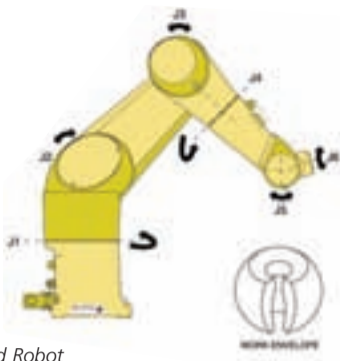

Figure 2. Articulated Robot
**ARTICULATED ROBOT** (Figure 2) – or Jointed Arm robot, is the most versatile type and closely resembles the kinematics of the human arm. It has three concurrent prismatic or rotary joints, with a further 3 axes in the wrist, giving 6 DoF. Its end effector can be manipulated to any orientation in the work envelope, which is almost spherical. The capacity to reach over and around constructions and twist or tilt the end effector, make it ideal for complex part removal/installation, processing, arc and spot welding, paint spraying, mould unloading and machine tending tasks.